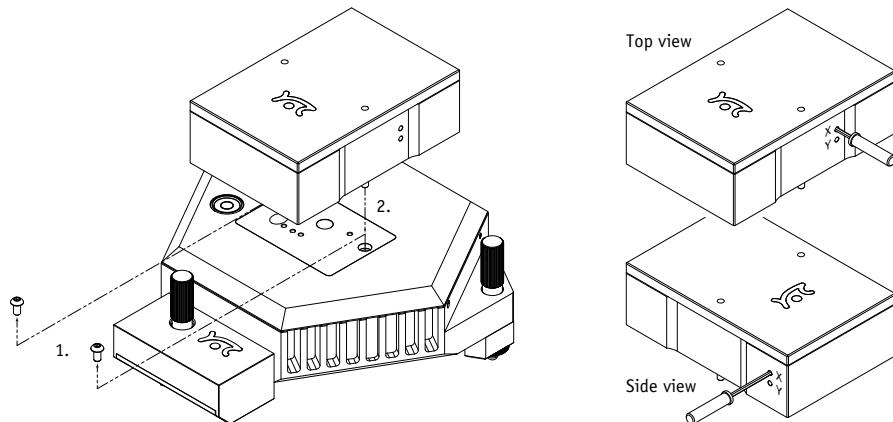

Figure 2-2: Installing the FlexAFM Video Camera. (Left) Mounting the camera. (Right) Centering the video images.
- ① Remove the two screw located on opposing sides of the black inlay of the top cover of the FlexAFM scan Head (*Figure 2-2: Installing the FlexAFM Video Camera*, left, 1), using a 2 mm Allen key.
- ② Attach the FlexAFM Video Camera to the top of the FlexAFM Scan Head (see *Figure 2-2: Installing the FlexAFM Video Camera*, left, 2) with the screws present inside the two holes on top of the FlexAFM Video Camera, using a 2 mm Allen key.
- ③ Connect the Video Camera USB cable to the mini-USB connector on the FlexAFM Video Camera, but DO NOT connect it to the PC yet.
- ④ Finish all hardware and software installations as described in the remaining sections of this chapter and make sure to perform the hardware recognition procedure (see *Section 2.3: Hardware recognition*).
- ⑤ Return here for the FlexAFM Video Camera image centering procedure outlined below.
- ① Start the SPM Control Software by selecting “Programs” >> “Nanosurf Easyscan 2” >> “Nanosurf Easyscan 2” from the Windows Start menu.
- ② Open the top view via the Video panel (see *Section 9.2: Video panel* (page 128)).
- ③ Use the 1.5 mm Allen key with ball point hex and screwdriver handle (*Section 1.2.1: Contents of the Tool Set* (page 18), item 5) to adjust the center position of the top view (see *Figure 2-2: Installing the FlexAFM Video Camera*, top right).
- ④ Open the side view via the Video panel (see *Section 9.2: Video panel* (page 128)).
- ⑤ Use the 1.5 mm Allen key again to adjust the center position of the side view (see *Figure 2-2: Installing the FlexAFM Video Camera*, bottom right).